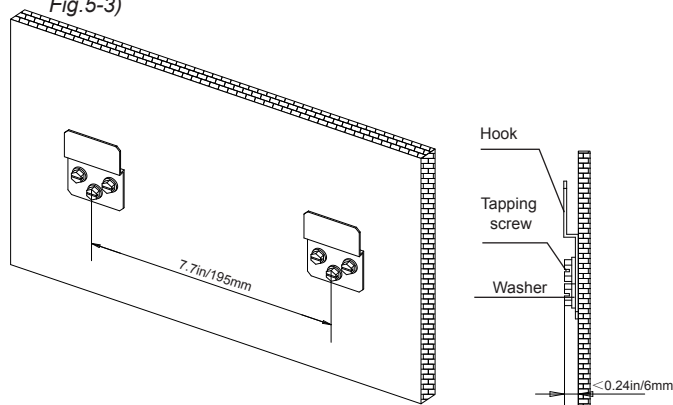

Fig.5-3
- Fix the hook with a tapping screw onto the wall. (Refer to Fig.5-3)